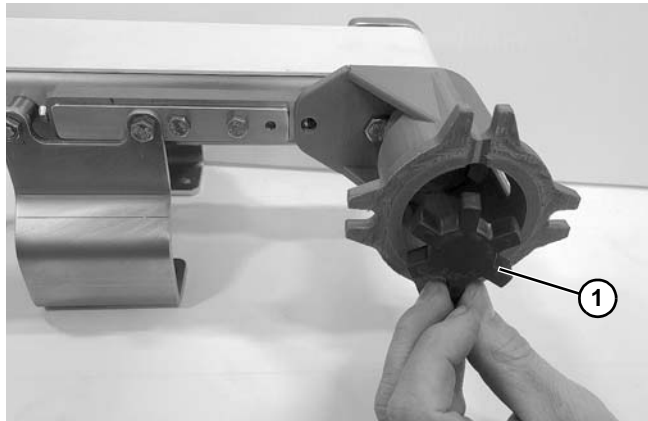

Figure 14
3. Insert spider (Figure 14, item 1) into 3 jaw coupling.